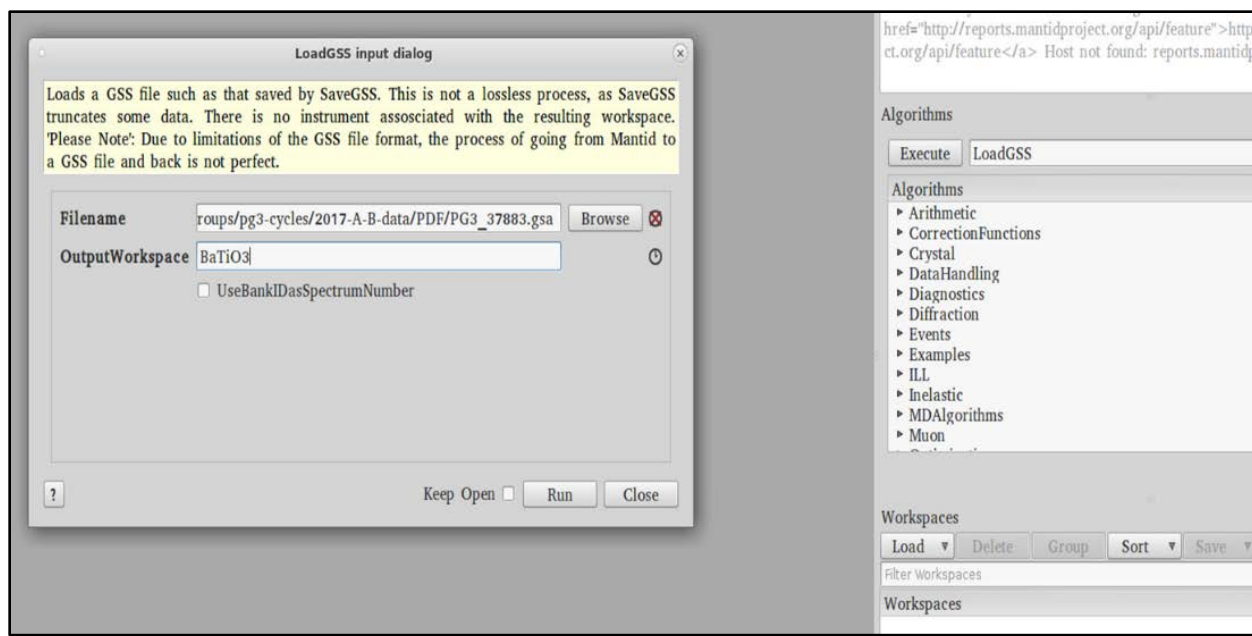

Figure 6. Main MantidPlot window, showing the Algorithms box on the right and the LoadGSS dialog box.
You may also use MantidPlot to reduce data from Powgen into a format appropriate for pair distribution function (PDF) analysis. This procedure will use the Algorithms box in MantidPlot (Figure 6). Algorithms are small bits of code that typically take a few inputs and execute a single step. They are run by typing the algorithm name in the box and hitting the Execute button.
1. Execute the “LoadGSS” algorithm (Figure 6) in MantidPlot by typing the name in the algorithm box and hitting the Execute button. In the pop-up box, use the Browse button to navigate to the autoreduce folder for your proposal and select the desired autoreduced \*.gsa data set. Give the dataset an appropriate name in the OutputWorkspace box and hit the Run button.